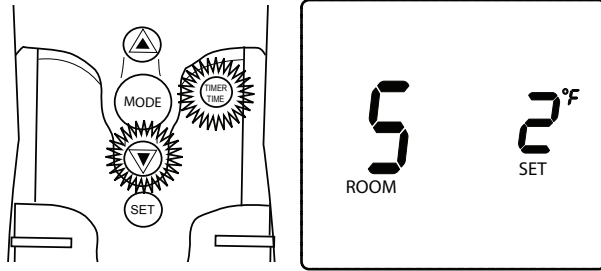

Fig. 18. Setting Swing Temperature
1. To change the temperature "SWING" setting (1-3), press the TIMER/TIME and DOWN buttons simultaneously (Fig. 18) to display the current "SWING" setting in the SET TEMP frame. The letter "S" will display in the ROOM TEMP frame on the LCD screen.